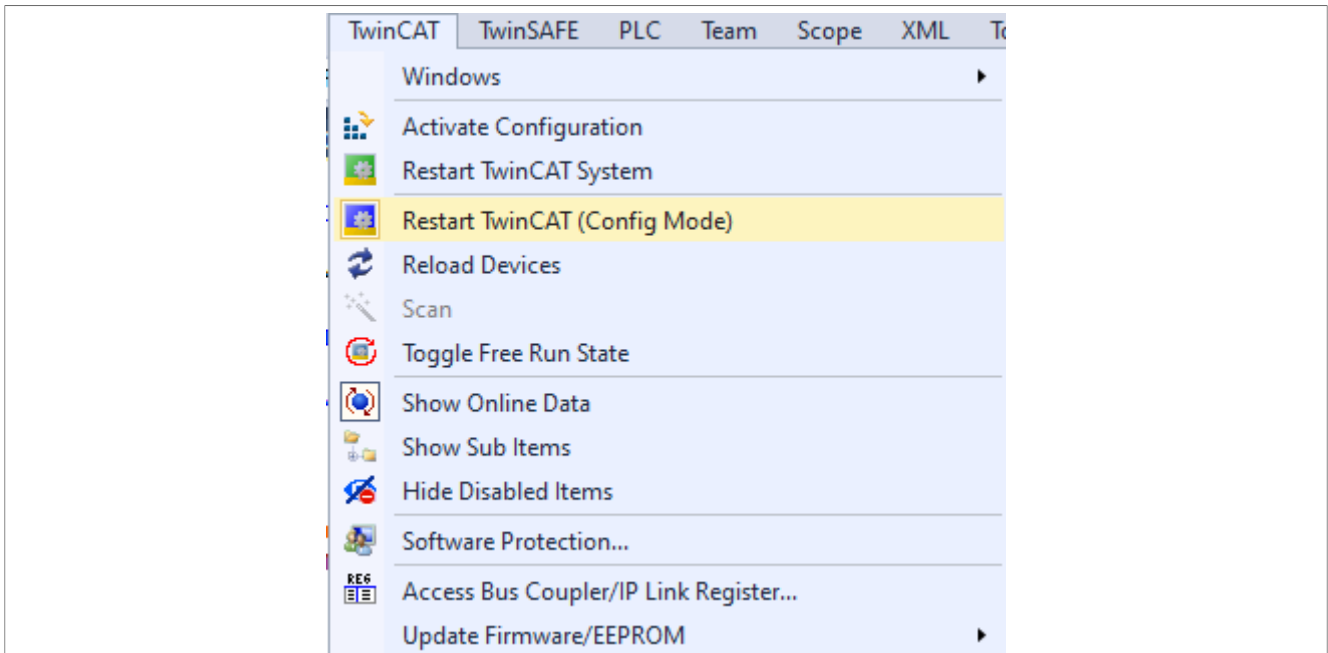

Figure 24. Set TwinCAT3 to Config mode
2. Set TwinCAT3 to restart in Config mode, as shown in Figure 24.